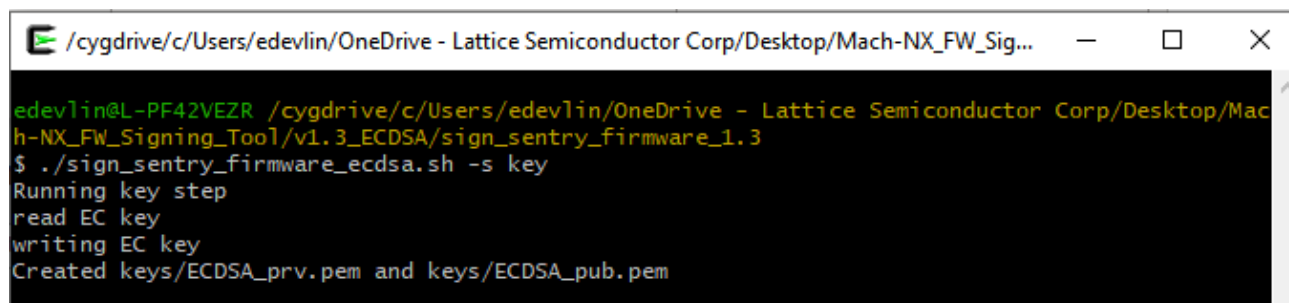

Figure 4.3. Enter the Given Command to the Terminal
3. Enter the following command to the terminal shown in Figure 4.3.